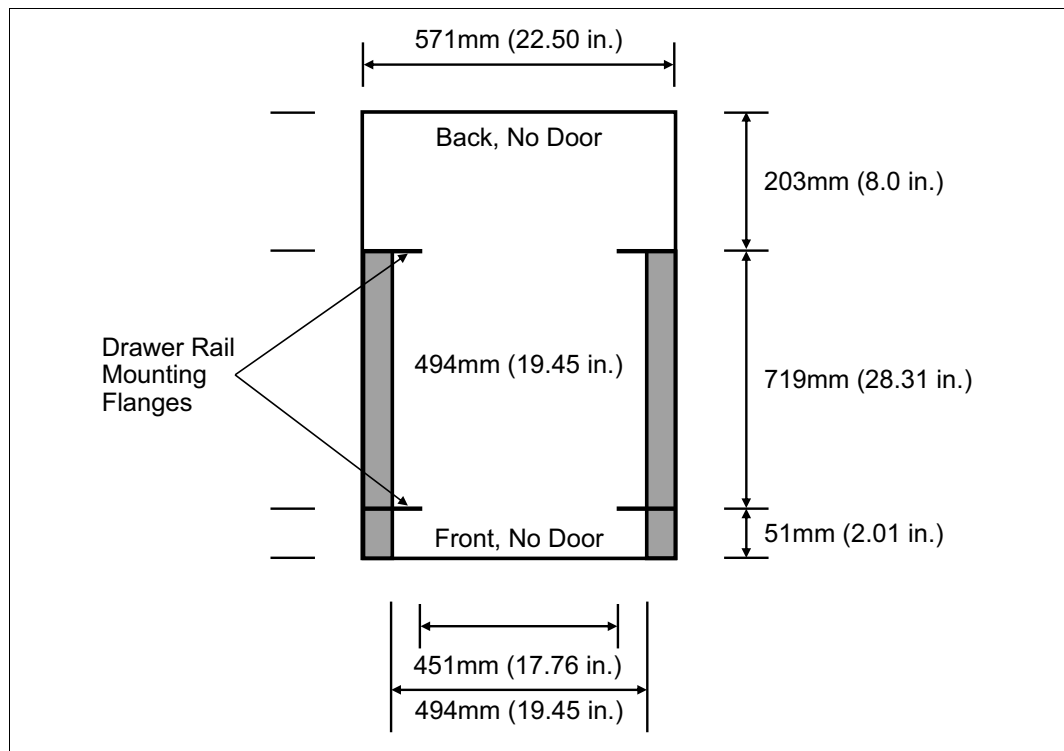

Figure 1-14 Top view of rack specification dimensions (not specific to IBM)
- ▶ The front rack opening must be 451 mm wide ± 0.75 mm (17.75 in. ± 0.03 in.), and the rail-mounting holes must be 465 mm ± 0.8 mm (18.3 in. ± 0.03 in.) apart on-center (horizontal width between the vertical columns of holes on the two front-mounting flanges and on the two rear-mounting flanges). Figure 1-14 is a top view showing the specification dimensions.